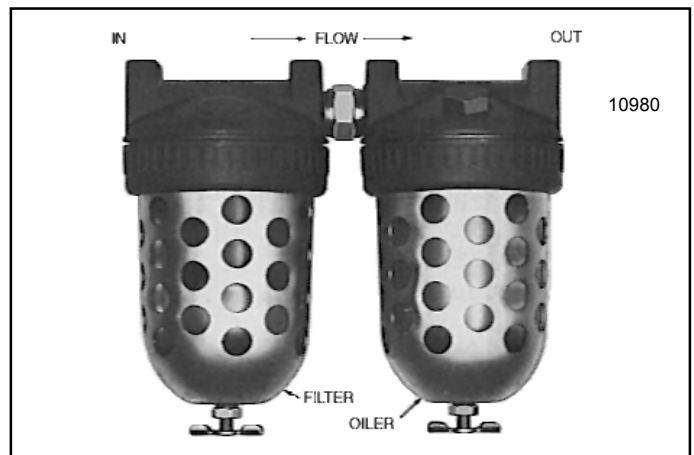

Figure 2-2. Air Filter and Lubricator Unit
c. A filter and lubricator unit (Figure 2-2) must be installed between air source and hoist, as close to hoist as possible. These keep air flowing to hoist free of dirt and add lubricant to air so internal parts of motor are constantly lubricated. Use a good grade of spindle oil, approximate viscosity 180 ssu at 100° F ., air powered tool oil, or S.A.E. 10W machine oil. Yale•Lift-Tech distributors can provide filter-lubricator units.